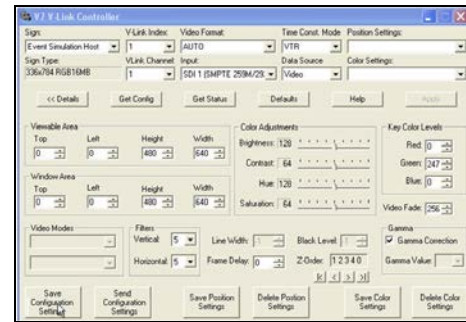

Figure 27: Save Configuration Settings
- Click the **Save Configuration Settings** button in the bottom left corner. Refer to **Figure 27**.